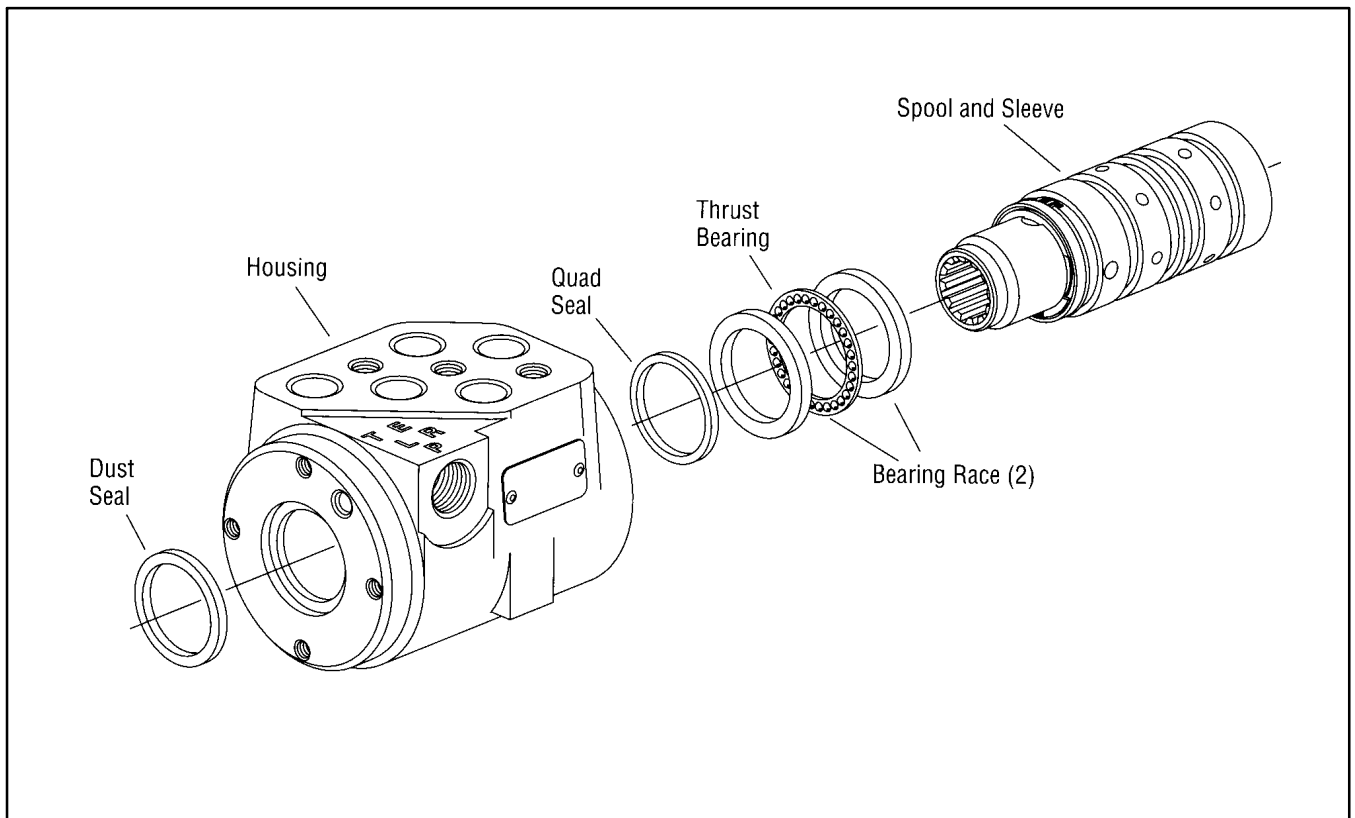

Figure 22
3. Slide the spool and sleeve from the housing (Fig. 22).
8. Put the thrust bearing and races into the housing. The thrust bearing goes between the two races (Fig. 22).